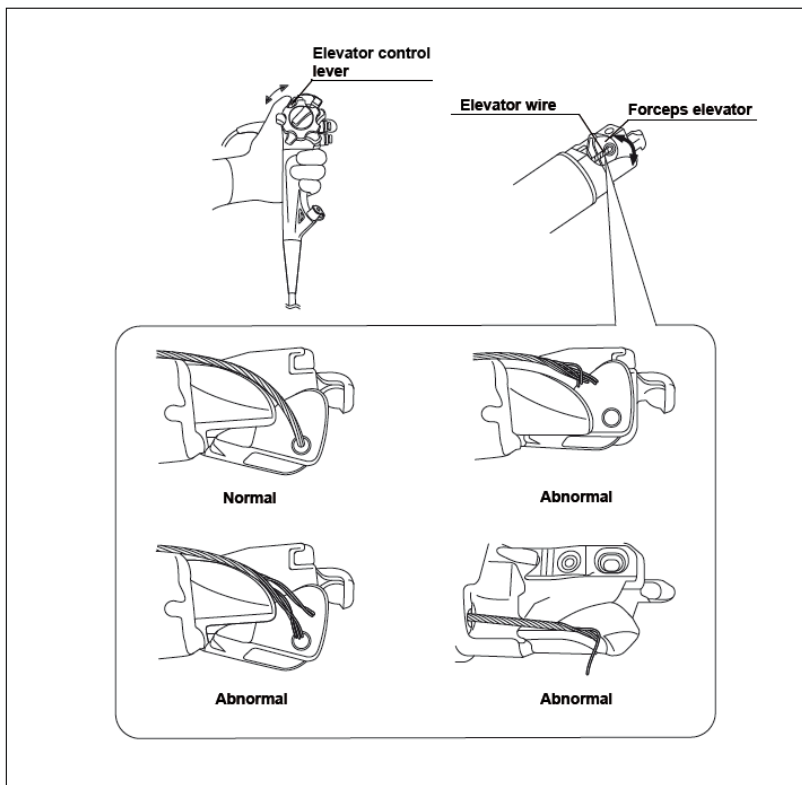

Figure 3.5
1. While observing the forceps elevator at the distal end of the endoscope, slowly move the elevator control lever all the way in the “◀U” direction. Confirm that the lever can be operated smoothly and that the forceps elevator is raised smoothly. Hold the elevator control lever and confirm that the forceps elevator remains stationary while pushed from behind. Visually confirm that the portion of the elevator wire extending from the distal end of the endoscope is not broken, frayed, or bent (see Figure 3.5). If any damage (broken, frayed, or bent portion) is observed on the elevator wire as shown in Figure 3.5, do not use the endoscope.
2. While observing the forceps elevator at the distal end of the endoscope, slowly move the elevator control lever all the way in the opposite direction of the “◀U” direction. Confirm that the lever can be operated smoothly and that the forceps elevator is lowered smoothly. Visually confirm that the portion of the elevator wire extending from the distal end of the endoscope is not broken, frayed, or bent (see Figure 3.5). If any damage (broken, frayed, or bent portion) is observed on the elevator wire as shown in Figure 3.5, do not use the endoscope.